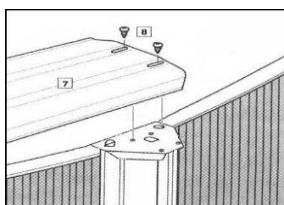

fig.31
- Adjust all the top profiles until they are lined up evenly with each other and tighten all the screws, fig. 31.